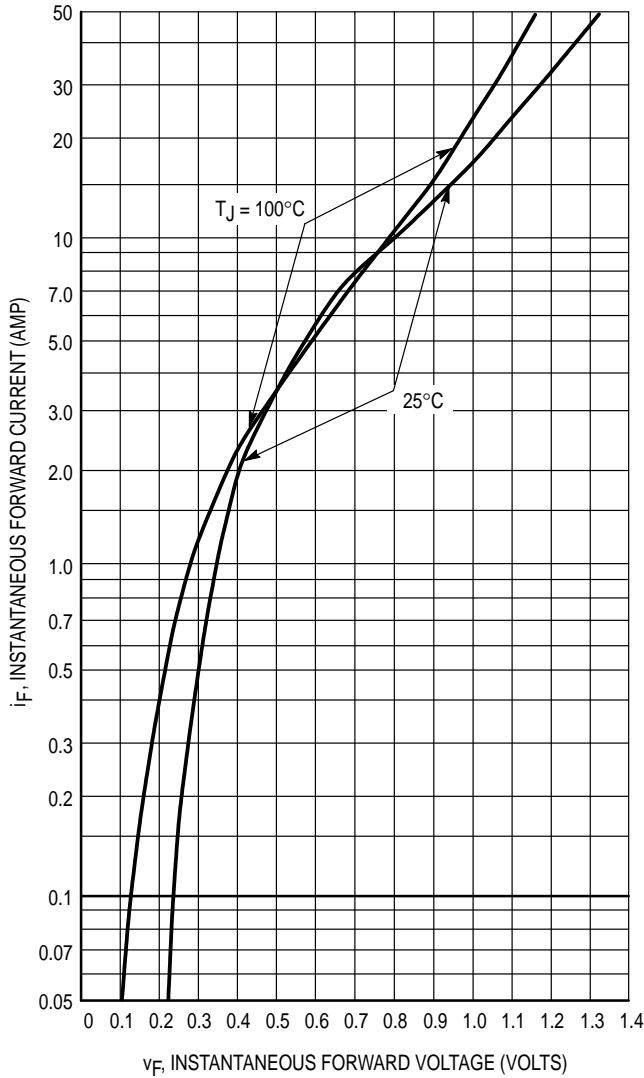

Figure 7. Typical Forward Voltage
**Values given are for the 1N5821. Power is slightly lower for the 1N5820 because of its lower forward voltage, and higher for the 1N5822. Variations will be similar for the MBR-prefix devices, using $P_{F(AV)}$ from Figure 7.